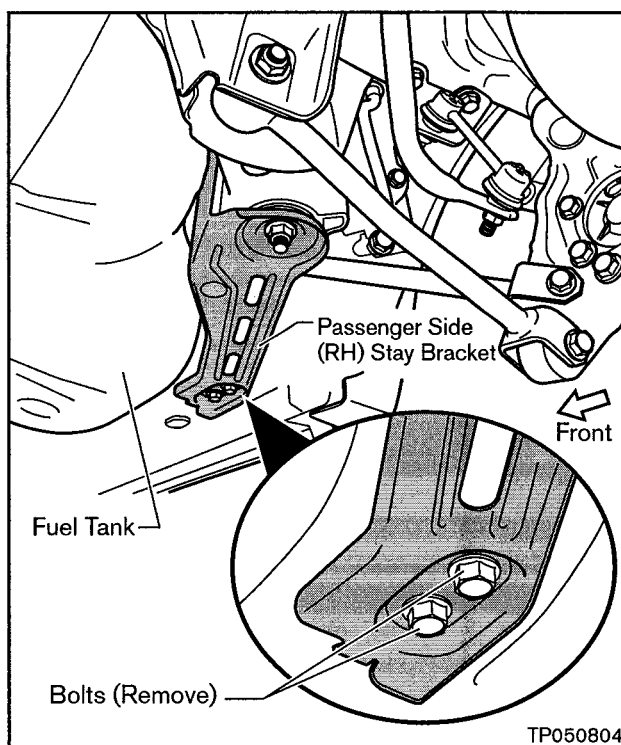

Figure A15
9. Remove the two front bolts from the right and left "stay" brackets (see Figure A15).